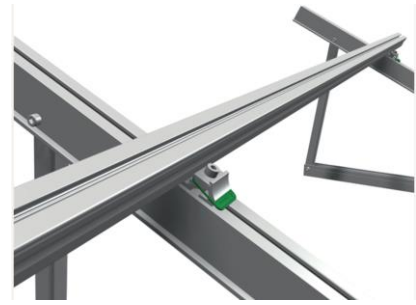

Fig 4.2.3: Multi Adaptor fixing rail to fastener
- II. Position and fit the bottom (rectangular channel) of Proline rails on top of rail cross connectors, across each A Frame frame, as shown in Fig 4.2.3.